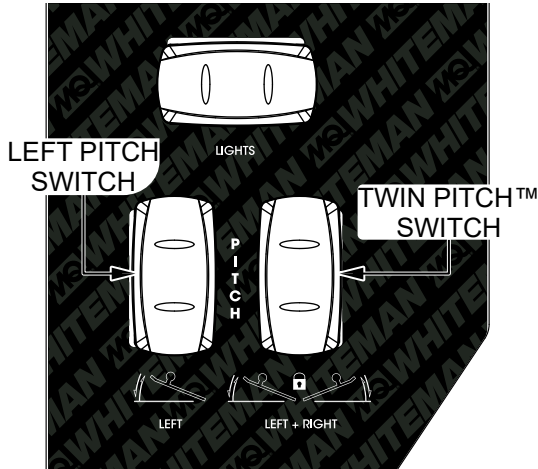

Figure 30. Blade Pitch Switches
1. Press **UP** or **DOWN** on the **Twin Pitch™** switch (Figure 30) to change pitch on both rotors simultaneously (but non-synchronously).
2. Press **UP** or **DOWN** on the **Left Pitch** switch (Figure 30) to change pitch on the left rotor only. The right rotor pitch will remain constant.